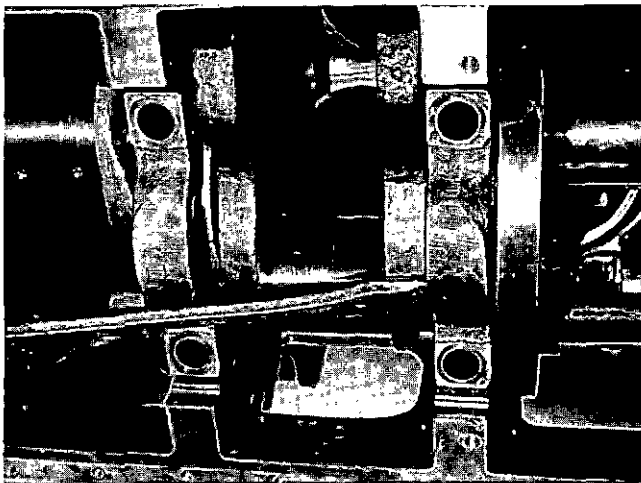

Fig. 0-43, V40076. Removing main bearing cap
4. With a small pry bar, loosen each main bearing cap. Fig. 0-43. When caps are free, lift caps from block. Keep capscrows in original position (tapped holes) in block.